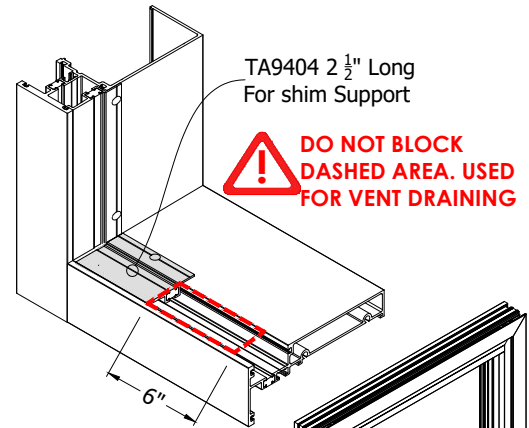

FIG. 3
- Install 2 1/2" long TA9404 at sill from both sides tight against adjacent pocket filler. Fasten using one S444 screw in the center of the V-groove. Seal fasteners with sealant. **See FIG. 3**
- Ensure weep holes are not blocked. Refer to **FIG. 3**